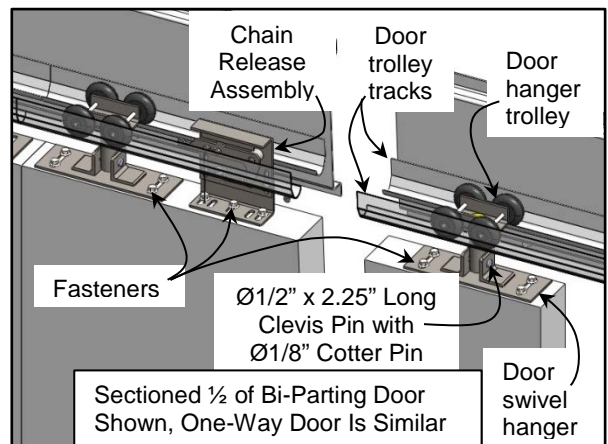

Figure 25
2. Inspect the door swivel hangers securing the door panel(s) to each trolley for loose or missing hardware. The hardware clamping the plate to the door must be in place and tightly secured. Replace/tighten hardware as required. (See Figure 25)
Replace or repair any missing, worn, or damaged hardware, components, or seals. (See Figure 25, 26, and 28)